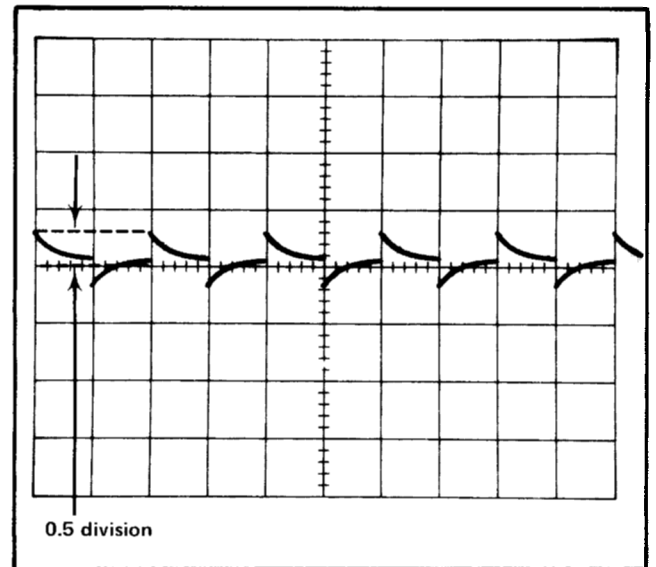

Fig. 5-3. Typical CRT display when checking calibrator current.
e. CHECK—CRT display 0.5 division in amplitude (five milliamperes; see Fig. 5-3).